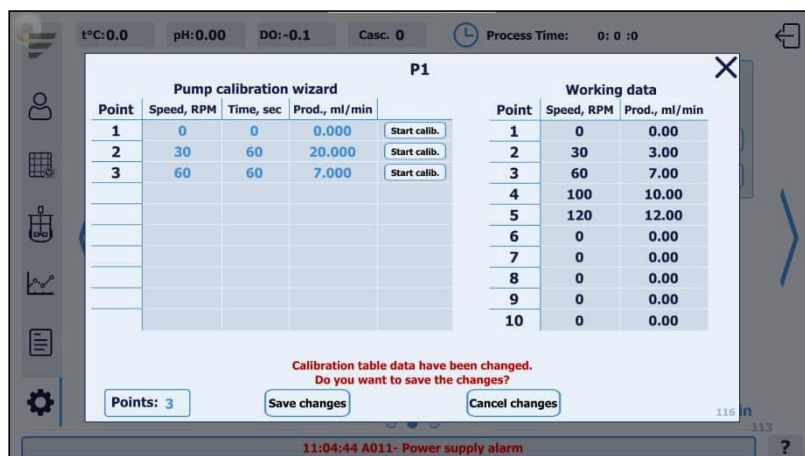

Figure 10.6. Saving pump calibration data
- 12) After the calibration of all envisioned points has been carried out, the user has to save the calibration data to the system by pressing the Save Changes button. Alternatively, all changes and calibration data can be discarded by pressing the Cancel Changes button (see Figure 10.6).